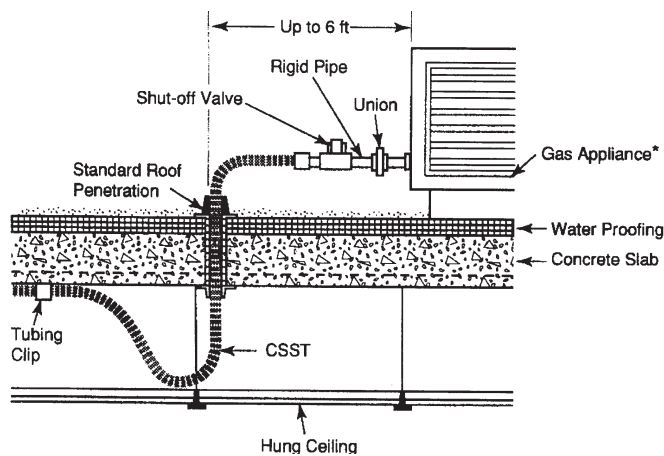

Figure: 4-38 Short (1-6 foot) outdoor connection to roof mounted equipment
2. No additional mechanical protection for the piping is necessary when connecting to rooftop equipment. Whenever possible, roof penetrations should be positioned within 6 feet of the equipment that needs to be connected, as illustrated in **Figure 4-38**. Long tubing runs should be supported by non-metallic blocks at the intervals specified in **Table 4-2** and raised above the roof at a certain distance determined by local code/practice.